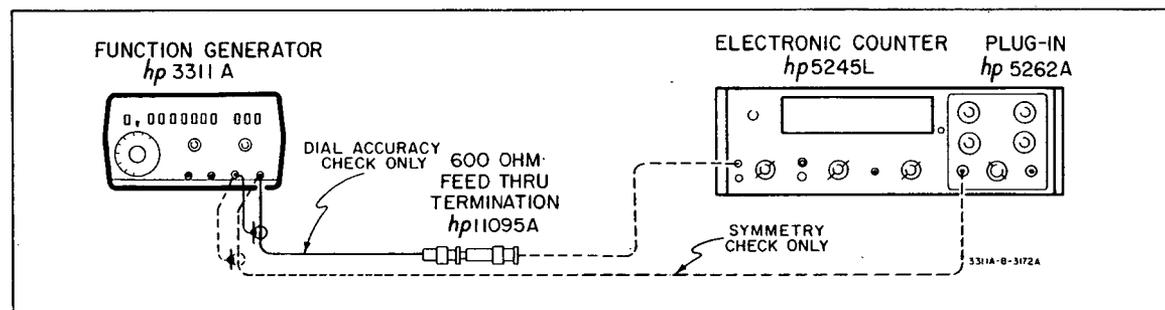

Figure 5-2. Dial Accuracy/Time Axis Symmetry Check.
a. Set the 3311A to square wave function and connect the output to the time interval input of an electronic counter as shown in Figure 5-2 (symmetry).
a. Connect the equipment as shown in Figure 5-2 for the symmetry test except connect the counter to the 3311A PULSE OUTPUT.
a. Connect the equipment as shown in Figure 5-2 for the dial accuracy check.